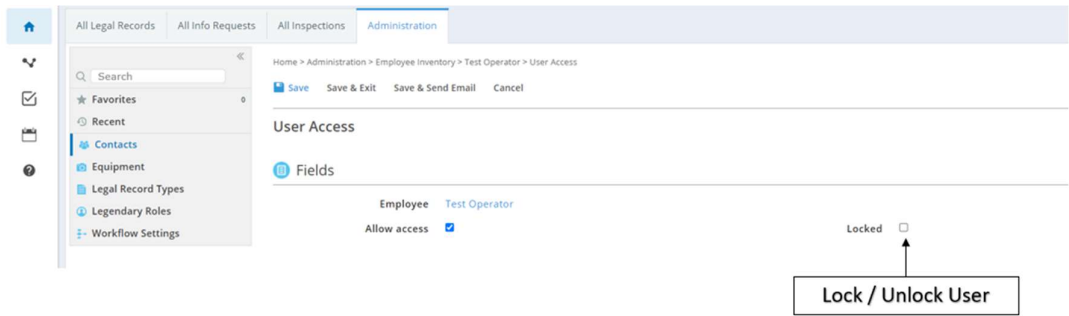

Figure 32: Locking & Unlocking a User Profile
1. Go to the Employee's User Profile (See Figure 32)
2. Select or Deselect the *Locked* button (See Figure 32)